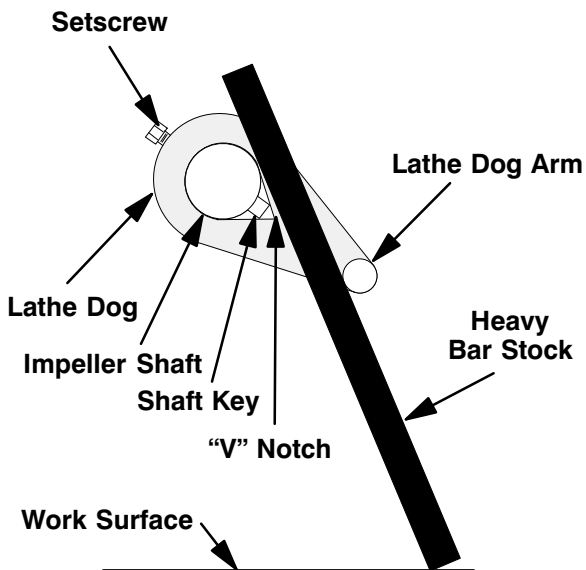

Figure 2. Loosening Impeller
If removed, install the shaft key (25). See Figure 2 and install a lathe dog on the drive end of the shaft (26) with the "V" notch positioned over the shaft keyway. Position a piece of heavy bar stock between the arm of the lathe dog and the work surface to block shaft rotation. **Use caution** not to damage the shaft or keyway.